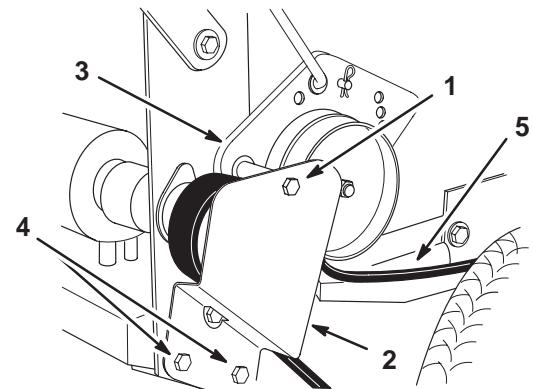

Figure 65
1. Remove the top capscrew securing idler support and idler bracket to rear frame (Fig. 65).
2. Loosen bottom two mounting screws enough to allow belt to pass between drive pulley and idler support (Fig. 65).
5. Install the top capscrew securing the idler support and idler bracket to the rear frame (Fig. 65).
6. Tighten the bottom two mounting screws enough to allow the belt to pass between the drive pulley and idler support (Fig. 65).